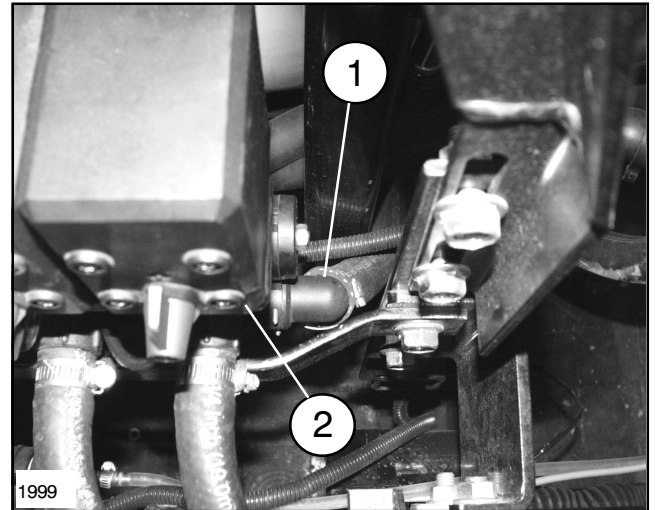
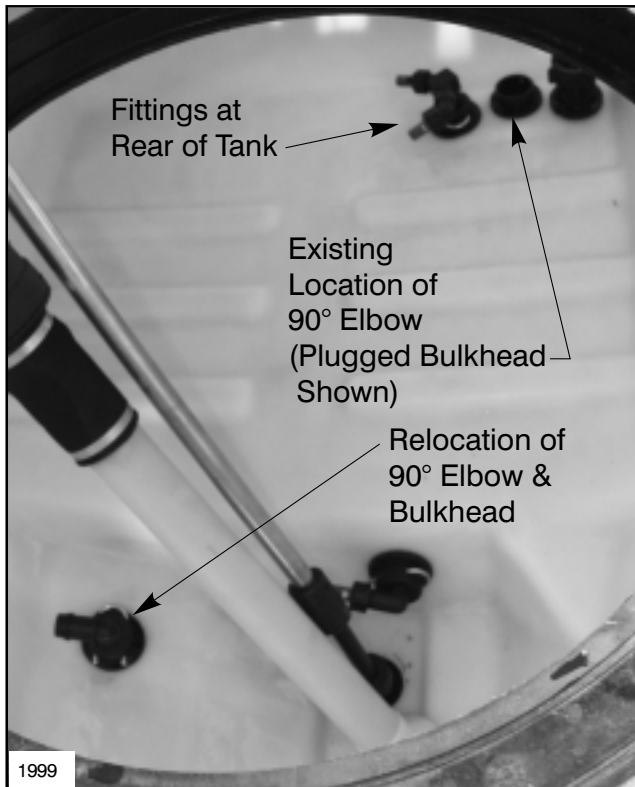

FIG. 1
FIG. 3
1. Remove the Boom Bypass Hose from the end of the Boom Section Valves, (see FIG. 1) and from the bottom rear of the tank, (see FIG. 3, page 2).
2. Insert Plug with O-Ring into the Tank Bulkhead from outside and at the rear of the tank. Secure with fork. See FIG. 3, page 2.
7. Remove the 90° elbow from the inside rear of the tank and relocate to the newly installed Bulkhead. Orient the 90° elbow so that fluid will flow up the right side of the tank. See FIG 3.